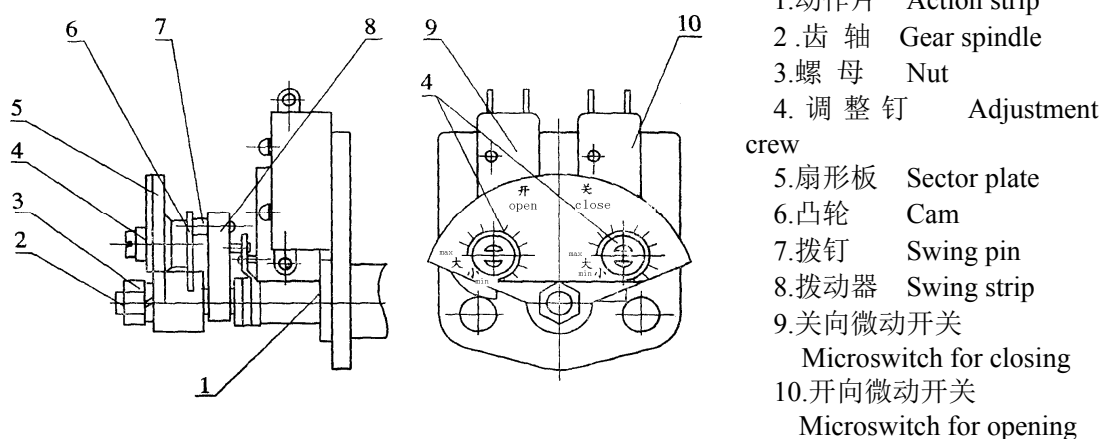
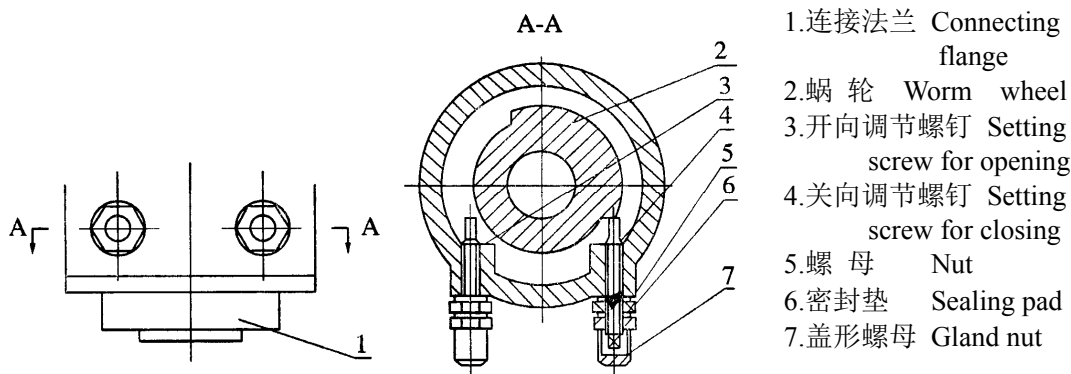
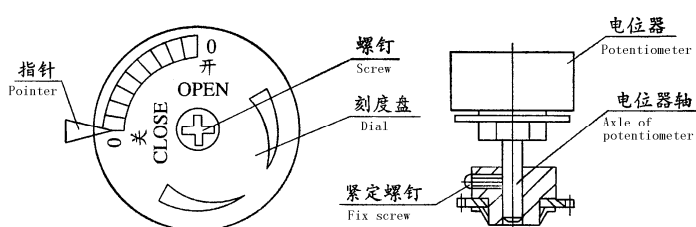

图 6 转矩控制机构 Fig.6 torque mechanism
图 7 机械限位机构 Fig.7 mechanical stopping
图 8 开度机构 Fig.8 position indicator
转矩控制机构见图 6，本装置在出厂前，启闭方向的转矩值均整定在额定控制点上，一般不需要再作调整，若现场需重新调整，方法如下：
2. 关闭位置采用机械限位时，转矩机构的调整，见图 7
Torque limit is shown in Fig.6. Torque limit of this device has been preset according to rated torque value before leaving factory and does not need resetting usually. If field resetting is required, it will be carried out as following:
2. Adjustment for closing by mechanical stopping (Fig. 7)
1. 开度刻度盘调整，见图 8。当行程控制机构调整完成后，把阀门关闭到“全关”位目视检查刻度盘上的“0 关”刻度是否与指针对正，如没有对正，松开刻度盘上的螺钉，转
Adjustment of dial, see Fig.8
9. 通常输出轴顺时针转动为关阀，逆时针为开阀（从上朝下看），若要求相反的话，图 6 中扇形板的“开”、“关”位置；图 7 中“开”、“关”调节螺钉；图 8 中刻度盘的“开”、“关”位置这些地方与本说明书不同，以实物为准，说明书不再更改。
In general, clockwise rotation of output shaft of actuator makes valve close, and counter-clockwise rotation of the shaft makes valve open(with view downward). If reverse rotation is needed, “open” and “close” positions of sector plate in Fig.6; adjust screws for “open” and “close” in Fig.7; “open” and “close” positions of dial in Fig.8 will not be consistent with this manual. The indicating marks are shown on the specific product and this manual will not be